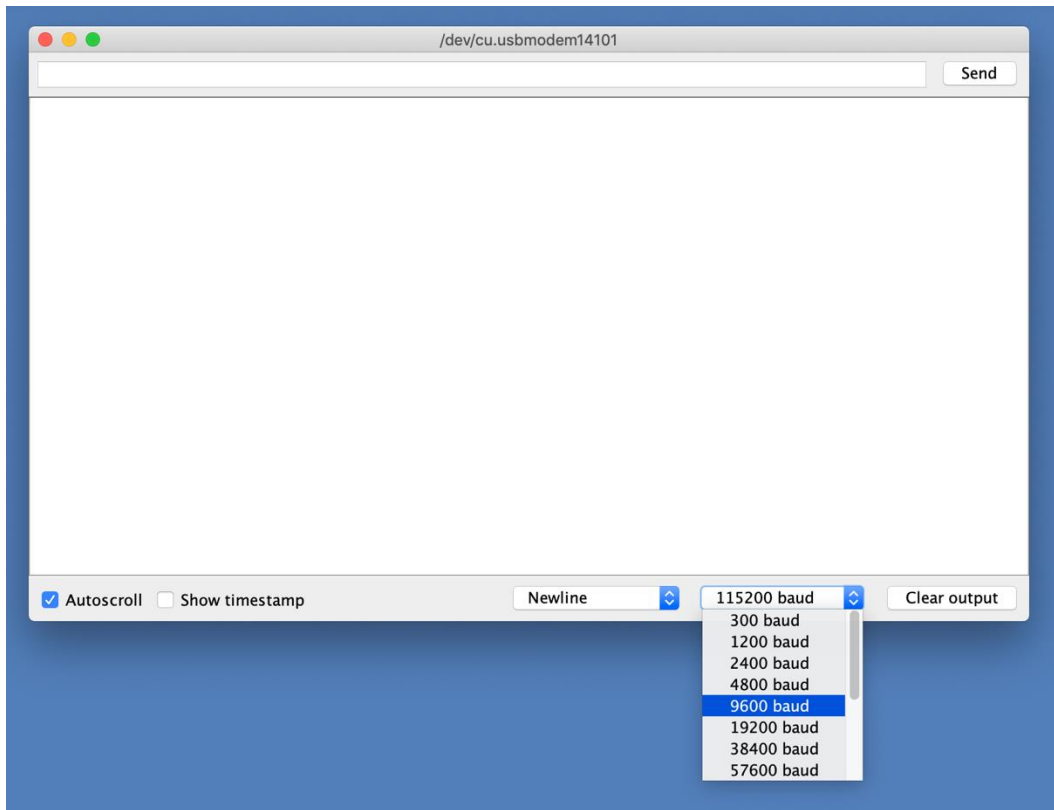

Figure 19: Changing the baud rate in the Serial Monitor
8. Select the **9600 baud** option from the drop-down menu at the bottom-right of the Serial Monitor (Figure 19).